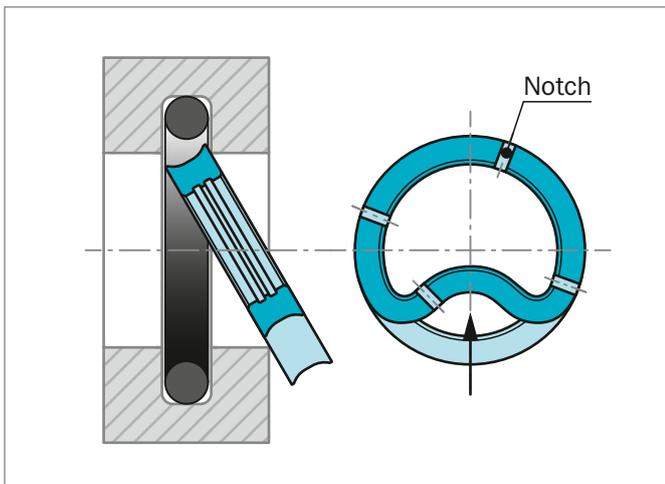
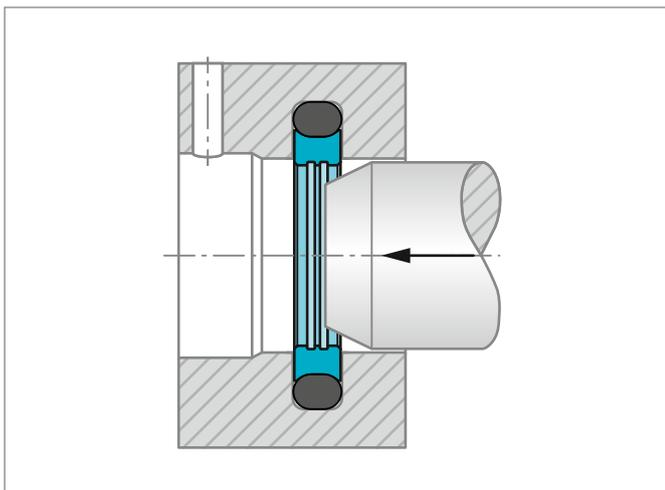

Figure 164: Installation of shaft Roto Glyd Ring® type in closed groove
Figure 165: Calibration of installed Roto Glyd Ring®
- Fold the Turcon® seal ring into a kidney shape (see Figure 164).
- 5) The Turcon® Roto Glyd Ring® V seal ring, with Quad-Ring® installed, is compressed into a kidney-shape and placed in the groove, see Figure 164 and Figure 165.
- 8) Calibrate the seal, see Figure 165.
In order to avoid damage during installation, lead-in chamfers and rounded edges must be provided on the shaft or housing (see Figure 164 and Figure 165). If this is not possible for design reasons, a separate installation tool is recommended.